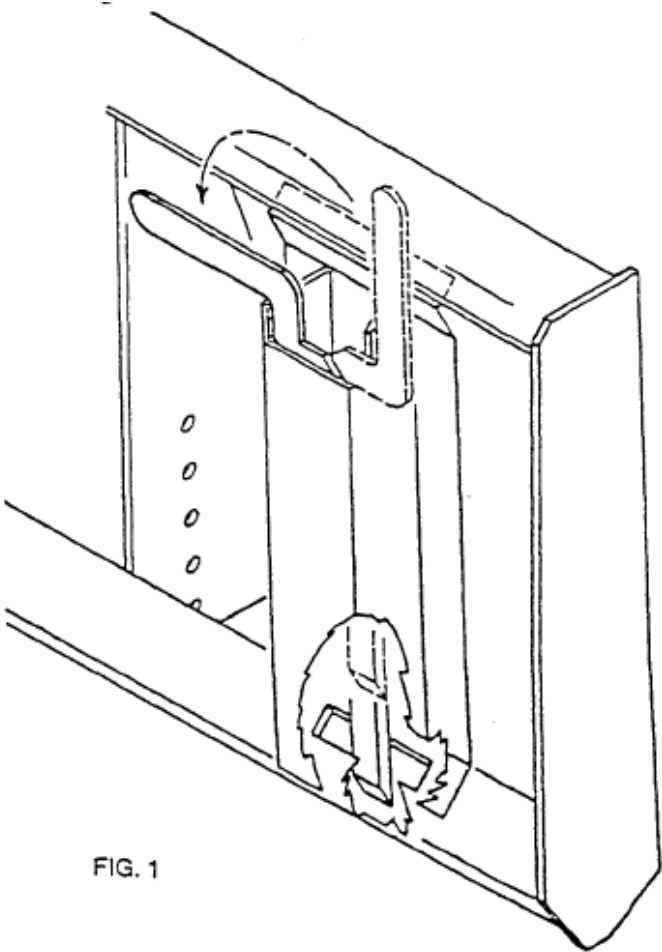

FIG. 1
- (1) Attach the mount to the loader coupler frame. Lock the mount on to the coupler frame with the locking handles. Make sure the locking wedges are locked into the mount. SEE FIG. 1.